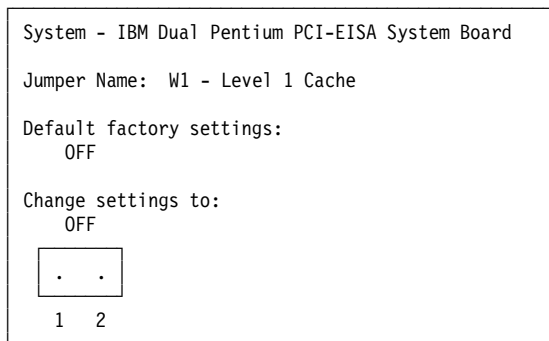

Figure 6. EISA Configuration Utility - Jumper Settings
- c. The necessary switch/jumpers settings are displayed in a panel similar to the one shown in Figure 6.